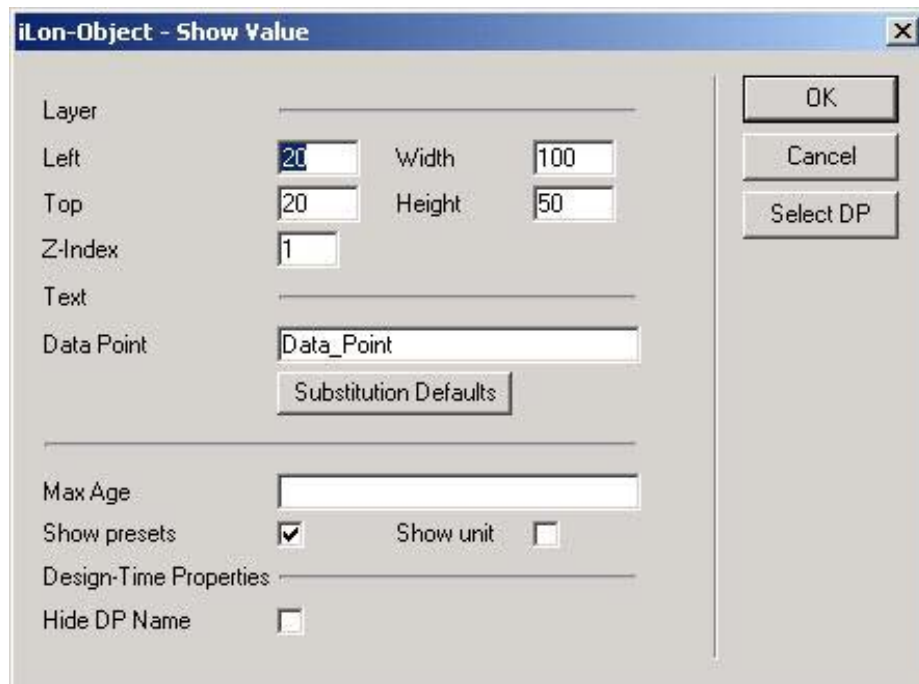

Figure 13.37 Show Value Dialog
- Open a draft of a Web page, click the **iLON** button, and then select **Show Value**. An icon is inserted on the Web page where the value will be displayed, and the dialog shown in Figure 13.37 opens.